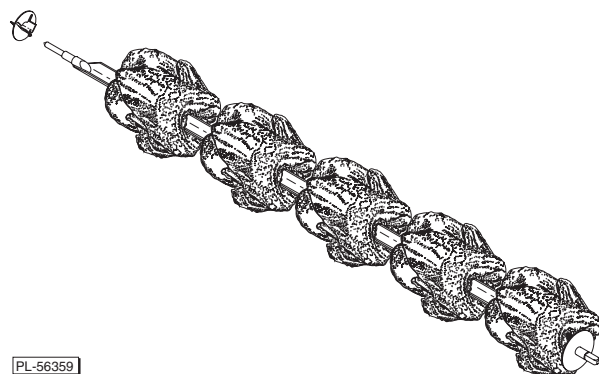

Fig. 21
- The angle V-spit holds five average size chickens (approximately 3.3 lbs [1.5 kg]) (Fig. 21). Continue loading angle V-spits until all seven spits are completed.